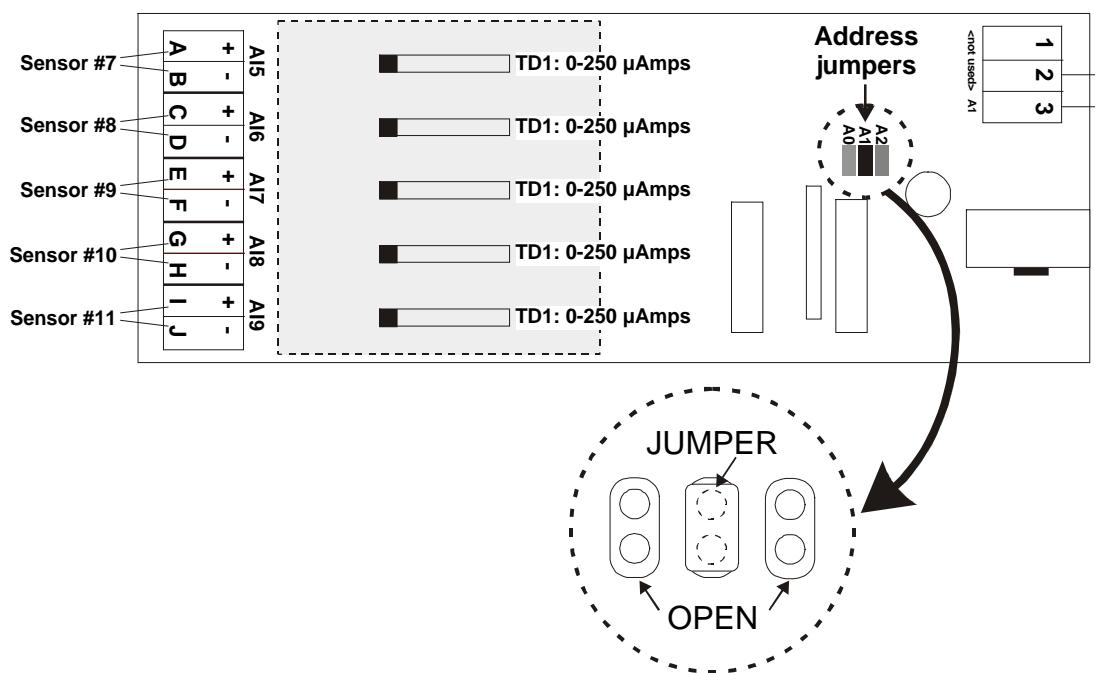

Figure 4-6. Address Jumpers, Typical Settings.
**4-1.4.1. Address Jumpers.** Locations and settings of address jumpers are shown on the computer-generated wiring diagram provided with the system hardware. Figure 4-6 shows a portion of a typical computer-generated wiring diagram. Address jumper connectors are A0, A1 and A2. Open jumper connectors are shown in grey on the wiring diagram. Connectors shown in black require a jumper to be installed. Address jumpers must be set properly on all LEMs and REMs in order for the system to operate correctly.